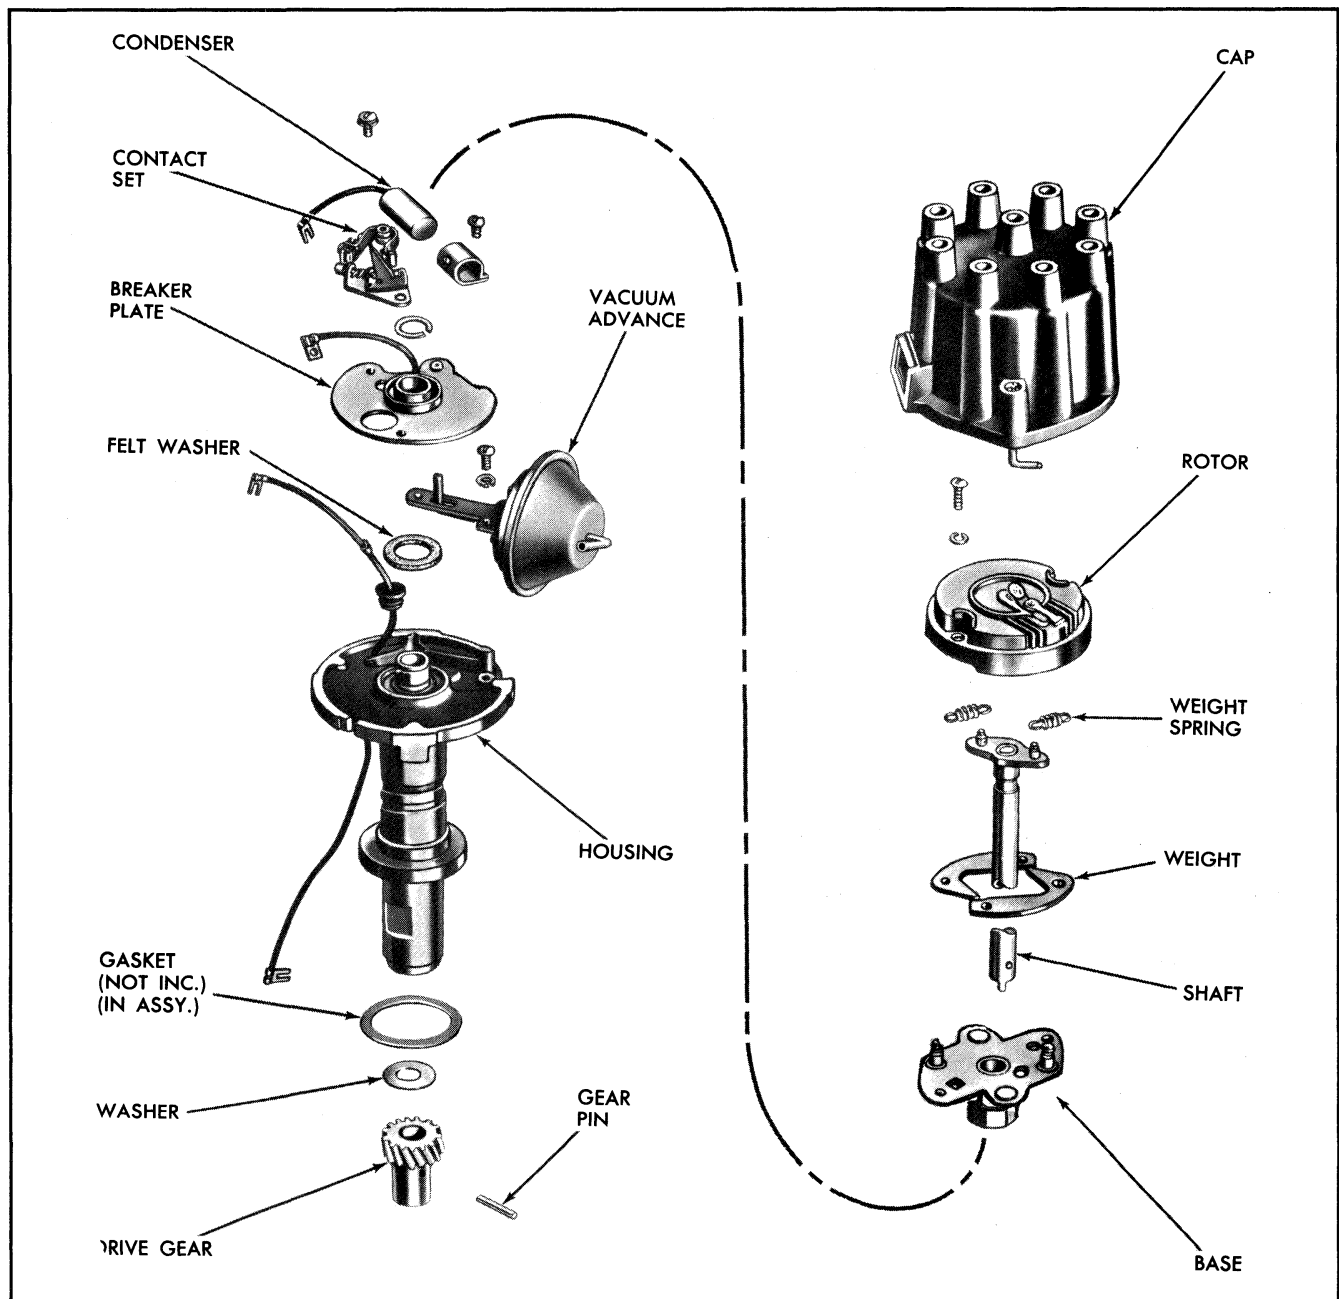

Fig. 11-58 V-8 Engine Distributor - Exploded View
1. Remove the rotor by removing the two attaching screw, lockwashers, and flatwashers (Fig. 11-58).